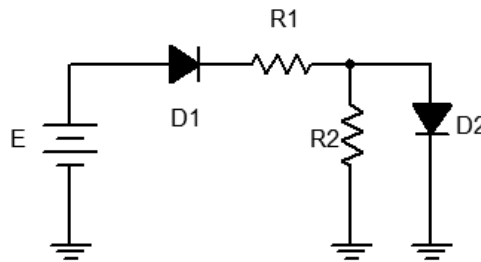

Figure 3
7. Consider the circuit of Figure 3 using $E = 12$ volts, $R1 = 10 \text{ k}\Omega$ and $R2 = 4.7 \text{ k}\Omega$. Analyze the circuit using the ideal 0.7 volt forward drop approximation and determine the voltages across the two resistors. Record the results in the first two columns of the first row (Variation 1) of Table 3.
8. Build the circuit of Figure 3 using $E = 12$ volts, $R1 = 10 \text{ k}\Omega$ and $R2 = 4.7 \text{ k}\Omega$. Measure the voltages across the two resistors. Record the results in columns three and four of the first row (Variation 1) of Table 3. Also compute and record the percent deviations in columns four and five.